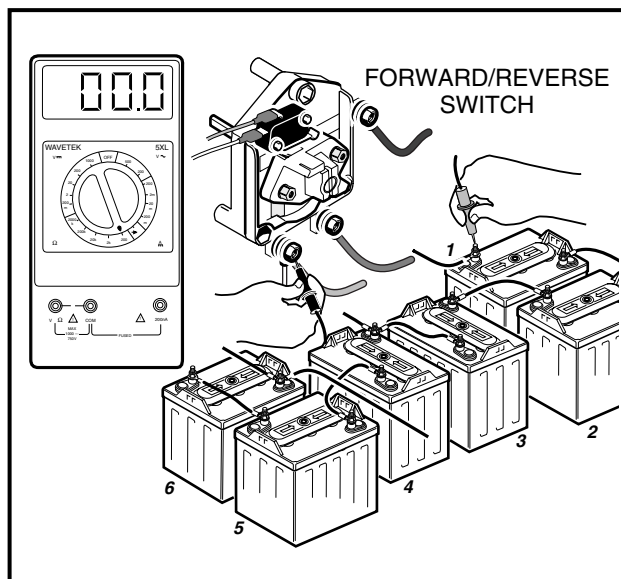

Figure 11-19 Solenoid Contacts – Power On, Step 2
2. With Forward/Reverse handle in the NEUTRAL position, place red (+) probe of multimeter (set to  $\Omega$ ) on positive post of battery no. 1. Place black (–) probe on the forward terminal lug on Forward/Reverse switch. If reading is no continuity, inspect the wire assembly between these two positions and replace the wire assembly if it has failed (**Figure 11-19, Page 11-16**).